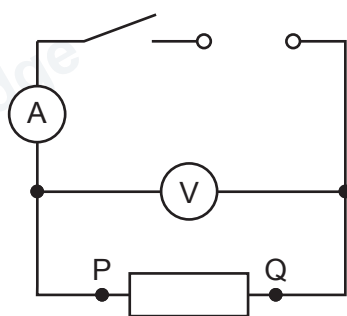

Figure 3.1
- (iv) Sufficient connecting leads to set up the circuits shown in Figure 3.1, 3.2 and 3.3.
1. The first circuit is to be set up for candidates as shown in Figure 3.1. The switch should be open.
2. The connector on one of the wires attached to the resistor must be labelled P and the connector on the other wire attached to the resistor must be labelled Q as shown in Figure 3.1.
Connect the circuit as shown in Figure 3.1 and check that the circuit is working and that the circuit is labelled circuit 1.
Check the connector on one of the wires attached to the resistor is labelled P and the connector on the other wire attached to the resistor is labelled Q as shown in Figure 3.1.